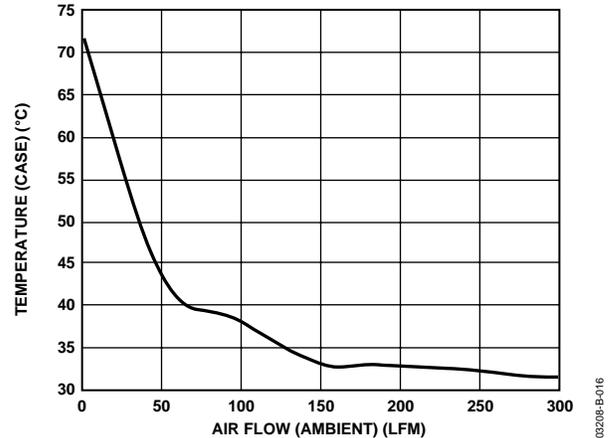

Figure 18. Temperature (Case) vs. Air Flow (Ambient)
- The unit rises to  $\sim 72^\circ\text{C}$  ( $T_c$ ) on the heat sink in still air (0 linear feet per minute (LFM)). The minimum recommended air flow is 100 linear feet per minute (LFM) in either direction across the heat sink (see Figure 18).